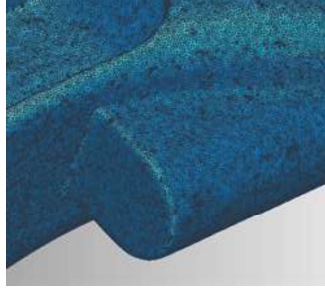

Figure 101
- **Zoom** to an area that contains high and low curvature similar to **Figure 101**.